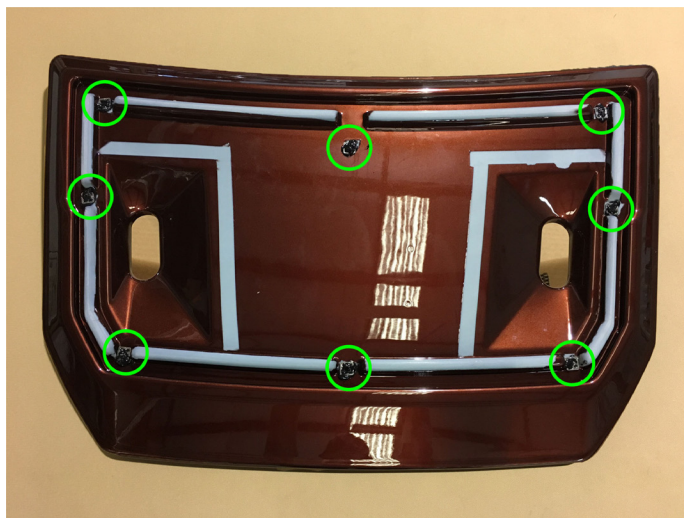

Figure 5
6. Tape off threaded area of included studs to prevent glue from covering studs. Drop perforated studs through drilled holes as shown, and glue in place. Be sure glue is between the stud base and the plastic. (Figure 5)